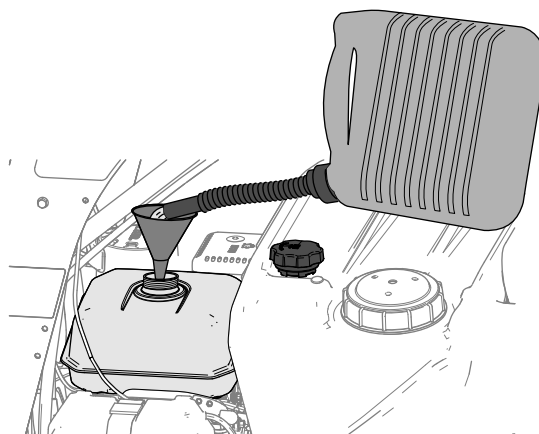

Figure 16
3. Clean around the fuel-tank cap and remove it (Figure 16).
4. Fill the tank with fuel (Figure 16) to within 6 to 13 mm (1/4 to 1/2 inch) from the top of the tank. **Do not fill into the filler neck of the tank.**